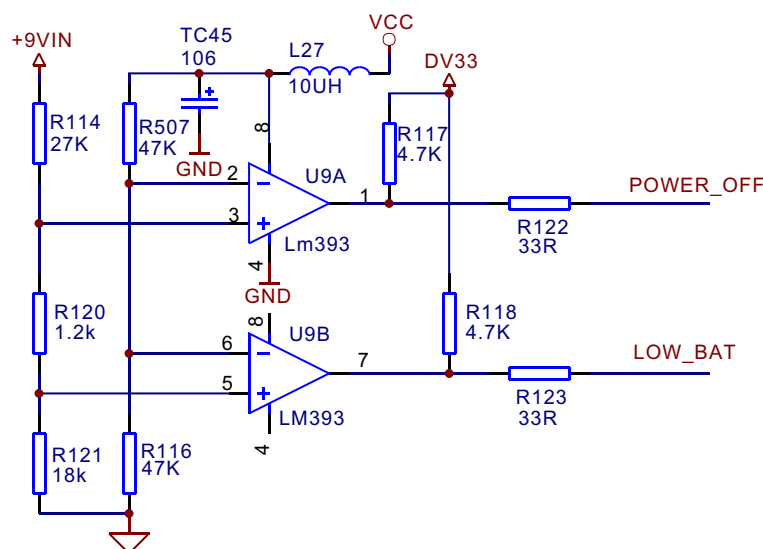

Figure 3.2.6.1 Battery voltage detecting circuit
1. Battery voltage detecting circuit is shown as in the following figure 3.2.6.1: